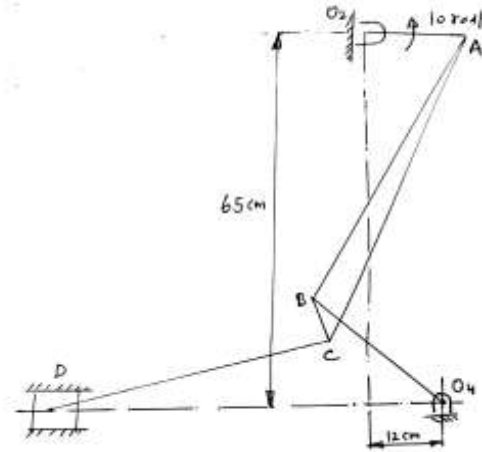

Figure 3
- Q.3 Figure 3 shows a mechanism having six links. Input link O_2A (in the horizontal position) rotates (15) at 10 rad/s anti-clockwise direction. Determine the velocity of slider D (link 6) using relative velocity method given $O_2A=25$ cm, $AC=65$ cm, $AB=60$ cm, $BC=10$ cm, $O_4B=30$ cm, $CD=75$ cm. also determine acceleration of slider D.
- Q.4 The driving crank AB of the quick – return mechanism as shown in figure 3 revolves at a uniform speed of 200 rpm. Find the velocity and acceleration of the tool- box R, in the position as shown when the crank makes an angle of 60° with the vertical line of center PA what is the acceleration of sliding of the block at B along the slotted lever PQ 15